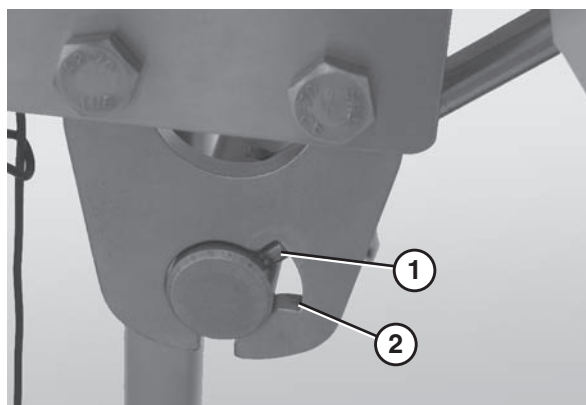

Figure 28
3. Insert the notched end of the scraper shaft (**Figure 28, item 1**) so that it is situated within the groove in the mounting plate (**Figure 28, item 2**).